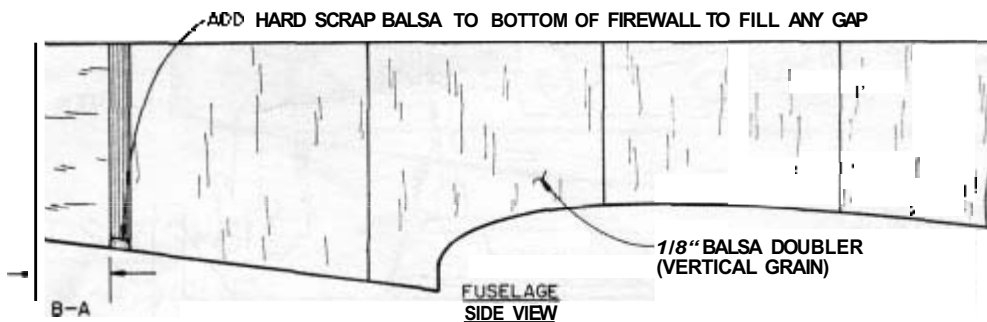

Figure 3
Basically all we've done here is to measure how long your new mount and engine is, allow for some spinner backplate space, and subtract the distance shown on the plan (A) from the distance you measured (B). The result gives you the distance you have to move the firewall back. See Figures 3 and 4 also.